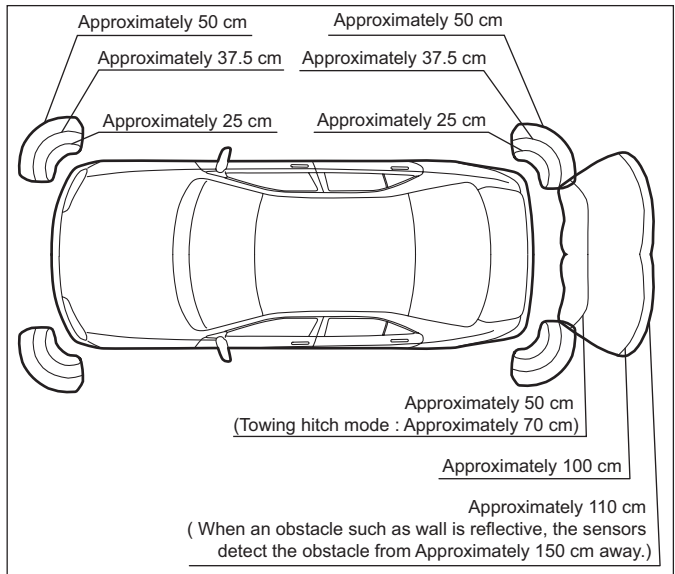

Fig. 10
- Make sure that there is no obstacle inside detecting area. (See Fig. 10.)